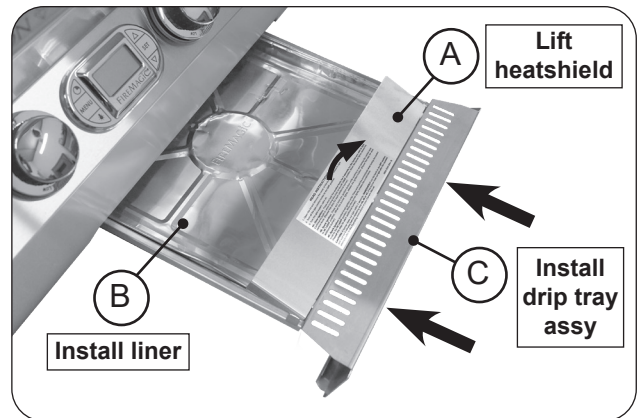

Fig. 26-3 Install drip tray
1. Lift the heatshield slightly, then place a liner into the drip tray (Fig. 26-3, A and B).
2. Then fully insert the drip tray assembly into the bottom front opening of the control panel (Fig. 26-3, C).